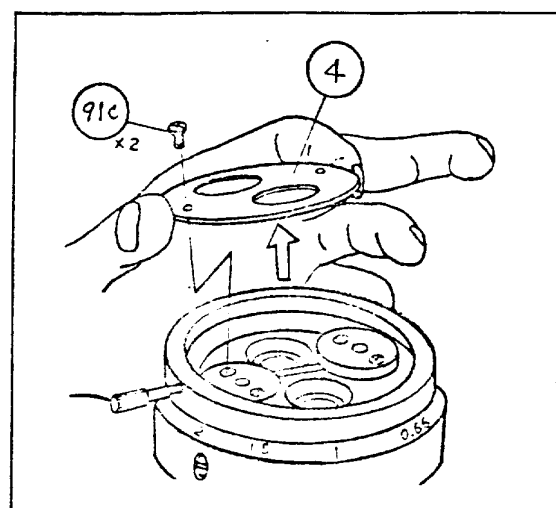

Fig. 42
- 4) Unscrewing the screws (91c)  $\times 2$ , remove the blind plate (4) (Fig. 42).